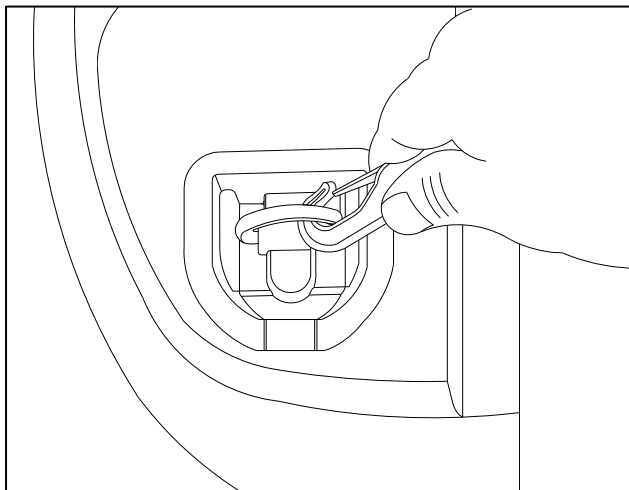

Fig. 1-2
- (b) Orient the net so the pull-tab is facing towards the rear of the vehicle and install the bottom hook over the lower D-ring as shown. (Fig 1-2)